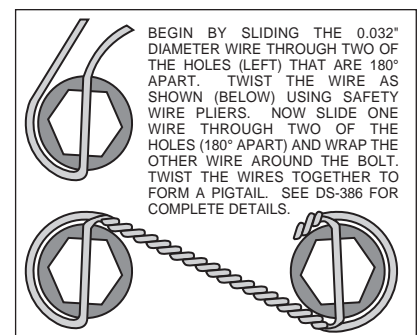

Figure 3. Safety Wire Diagram
- Apply red *Loctite*® 271 to bolt threads (2 and 4) before assembly of the caliper bracket (1) to backing plate face of spindle. Then install bolt (4) through caliper bracket (1), spindle face and the steering arm. Finger tighten the bolt (4) with lock nut (5). Install and finger tighten two bolts (2) with lock nuts (3). Torque two bolts (2) to 47 ft-lb. Torque bolt (4) to 77 ft-lb. **NOTE:** Be sure the heads of the caliper bracket (1) insert nuts are facing outward toward the wheel.
- Install five new wheel studs (6) into the hub (7). Torque to 77 ft-lb. **NOTE:** There are two five lug patterns in the hub (5 x 4.00 and 5 x 4.50). Make sure of the correct hole pattern for the correct wheel application before installing studs into hub.
- Pack the large inner bearing cone (8) with high temperature disc brake bearing grease (available from your local auto parts store) and install into the backside of the hub (7).
- Install the grease seal (9) by pressing into the backside of the hub (7).
- Attach rotor adapter (10) to rotor (11) using six bolts (12). Using an alternating sequence, apply red *Loctite*® 271 to the threads and torque bolts (12) to 25 ft-lb. For an added measure of security, the bolts may be safety wired using standard 0.032 inch diameter stainless steel safety wire as shown in Figure 3. Please refer to Wilwood's data sheet DS-386 for complete safety wire installation instructions. **NOTE:** The flat side of the rotor (11) lugs face toward the rotor adapter (10) with the dished side of the rotor adapter (10) facing away from the rotor (11).